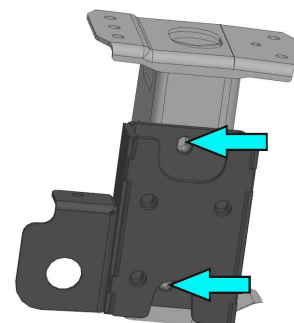

Fig.54
54. Install recovery point bracket (item H1) on the left side of the vehicle and fix using OE bolts as shown in fig.54.